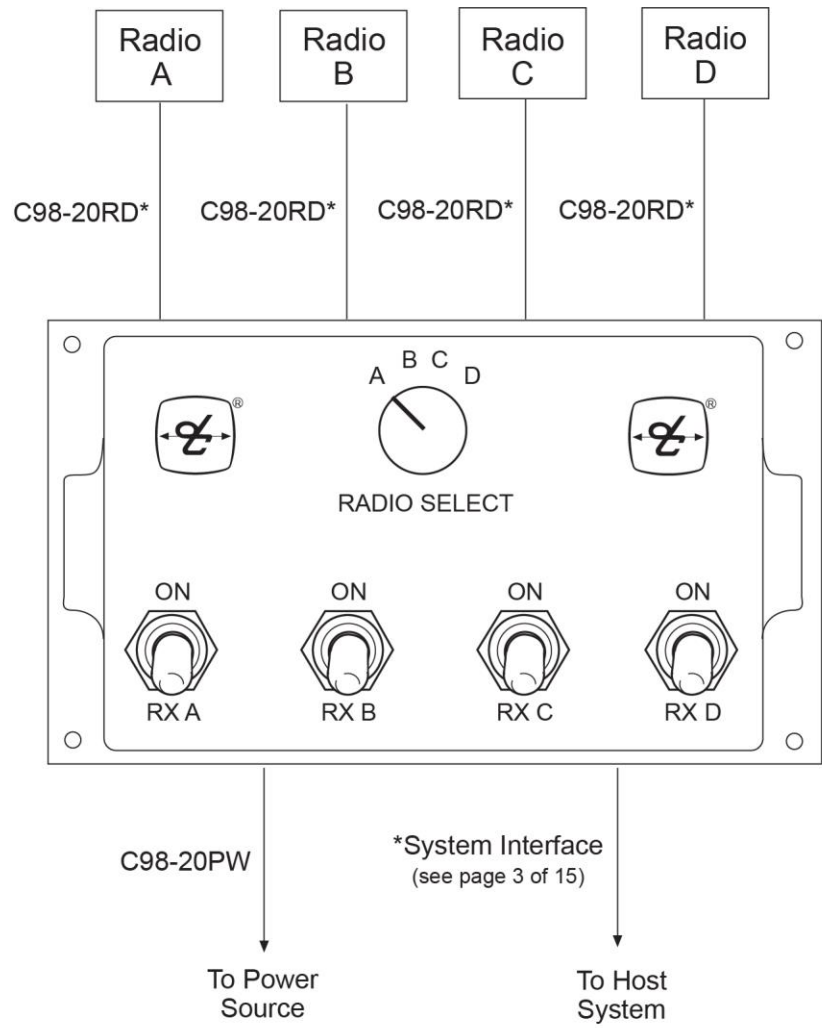

Figure 1: Typical Layout
Primary components of the system are indicated in **Table 1**. In addition, a basic layout of the system is shown in **Figure 1**.
- Determine which radio letter this radio is (i.e., Radio A, B, C, or D) and connect Radio Cable to the M-RIM. See **Figures 1&4** for connector locations.
- Route the cable and connect to the M-RIM. See **Figures 1&4** for connector location.
- ❑ Connect the cable to the jack on the M-RIM labeled “Power”, see **Figures 1&4**. To connect the cable to the M-RIM, align keyways and push. Then push and turn collar clockwise until it locks into place. Pull back gently on the cable to ensure connector is properly locked.